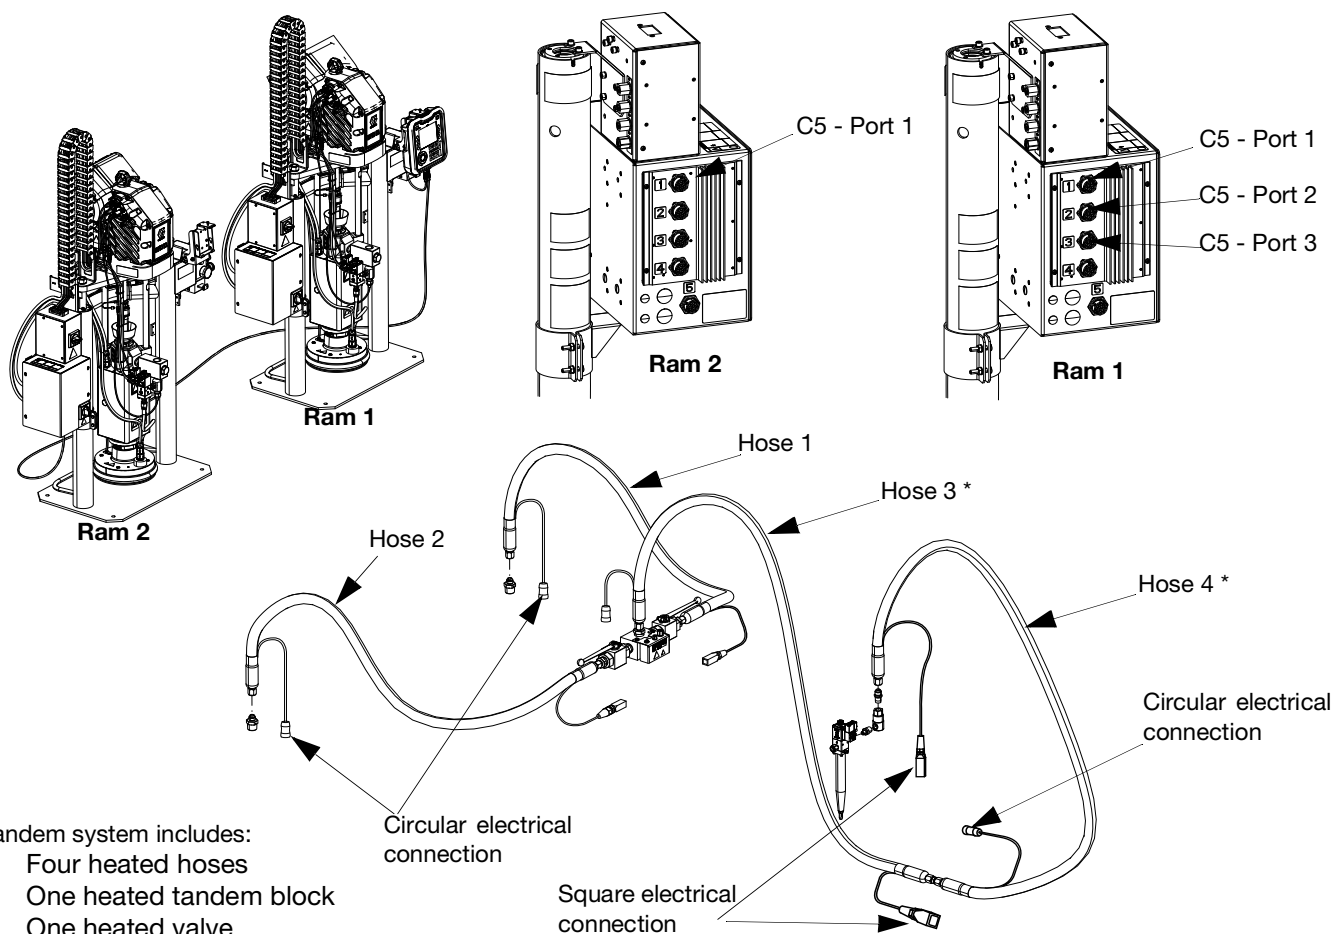

FIG. 34
- Heated Valve - Square electrical connection from hose 4 to iQ dispense valve (B).
- Heated Tandem Block - Square electrical connection from hose 1 or hose 2 to heated tandem block (R). See FIG. 34.